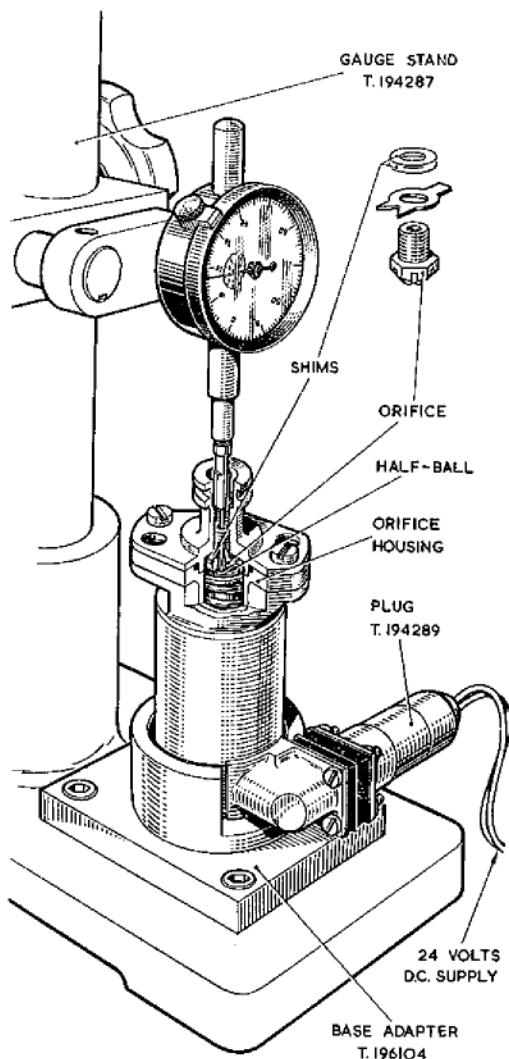

Fig. 7. Setting the solenoid air-gap
68. The gauge stand T.194287 and the base adapter T.196104, for mounting the solenoid on the stand, are required for setting the solenoid air-gap (fig. 7). If the same shims are assembled as were removed when dismantling, the gap will be approximately correct and any discrepancy will be due to the fitting of a new tabwasher under the orifice.